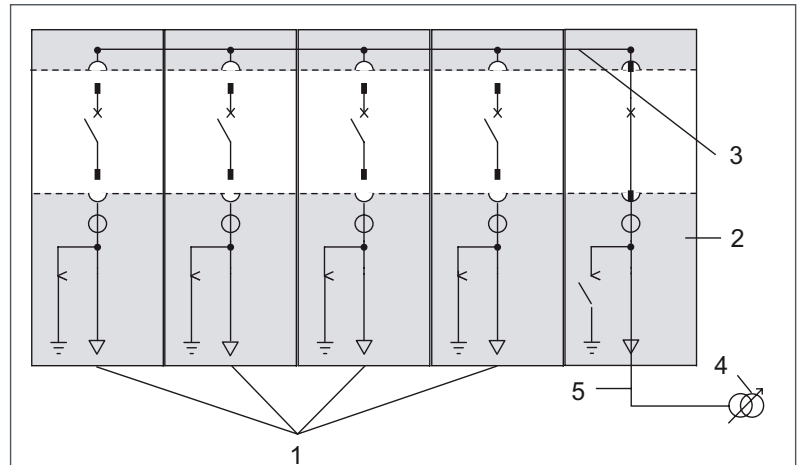

Fig. 8.2
- All panels must be isolated from the power supply and earthed (Fig. 8.2).